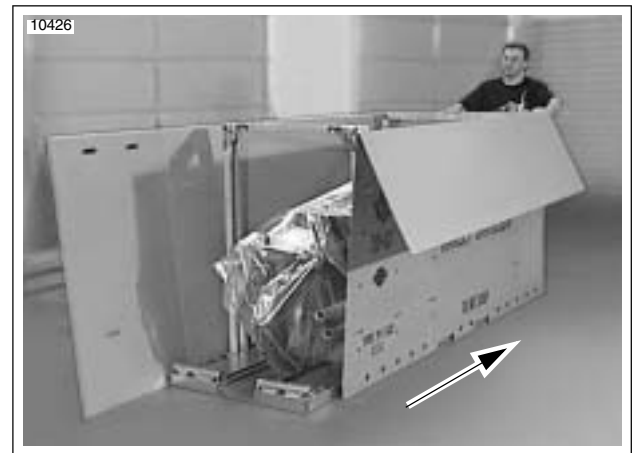

Figure 1-2. Remove Cardboard Carton from Pallet.
2. See Figure 1-2. Using a box cutter, cut one end of the cardboard carton. Slide carton away from pallet as shown. Set carton aside for recycling.